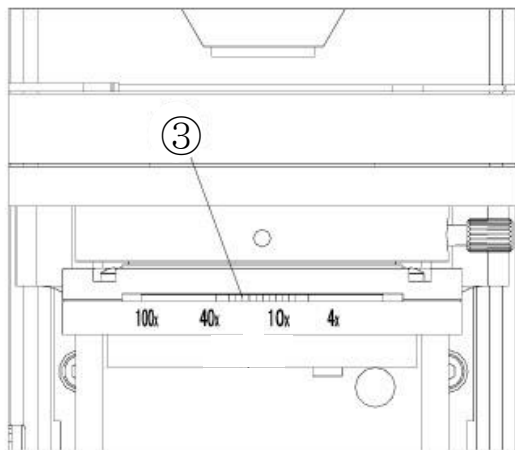

Fig. 16
The aperture size is increased or decreased by rotating the condenser aperture diaphragm lever ③. When the aperture is closed, the brightness and resolution are decreased but the contrast and range of focus are increased. If the aperture diaphragm is opened, the brightness and resolution are increased; however, the contrast and range of focus are diminished. For optimal viewing conditions set the condenser aperture diaphragm lever to match the magnification of the objective in the optical path (Fig. 16).